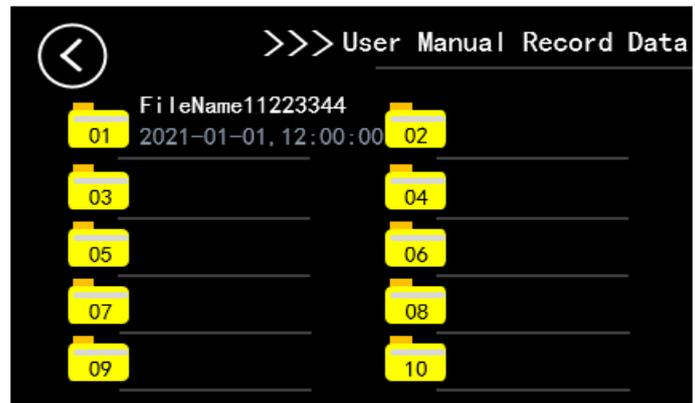

Fig 4.10 File Recording List Interface
**File recording list:** File directory. A total of 10 data files can be saved. On the file list page, the name of each file, the time and date of the last file modification are displayed. If the file is empty, nothing is displayed. See Figure 4.10.